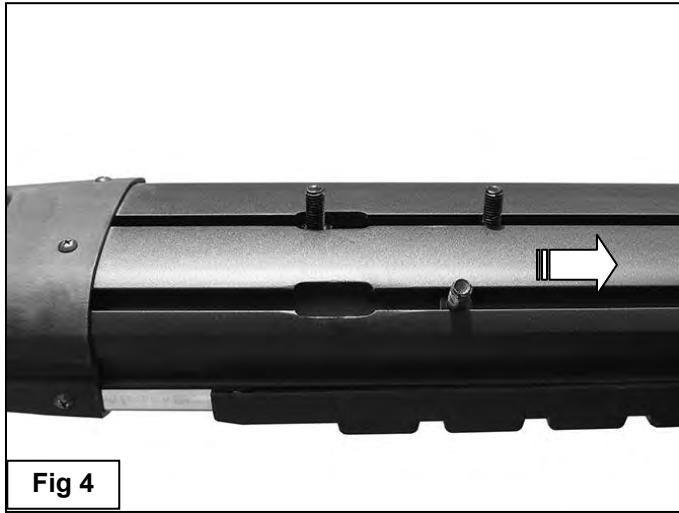

Fig 4
6. Select the driver Sidebar. Locate the opening in the end of the channels in the bottom of the Sidebar. Slide (2) 8mm T-Bolts into each channel, (**Figure 4**). Carefully position the Sidebar onto the (2) Mounting Brackets. Lift the Sidebar up and slide the T-Bolts along the sidebar to match up with the Brackets. **IMPORTANT:** Do not slide, (front to back or rotate), the Sidebar on the Brackets or damage to the finish on the Sidebar may result.